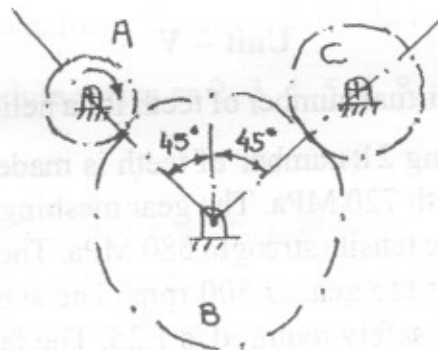

Fig. 2 [Q.7(c)]
- c) The pitch circles for a train of spur gears are shown in Fig. 2. Gear 'A' receives 3.5 kW at 700 rpm through its shaft and rotates in the clockwise direction. Gear 'B' is the idler gear while gear 'C' is the driven gear. The number of teeth on gear 'A', 'B' and 'C' are 30, 60, 40 respectively. While the module is 5 mm calculate the torque on each gear shaft and the components of gear tooth forces. Draw a free body diagram of forces and determine the reaction on the idler gear shaft. Assume 20° full depth involute system for gears.